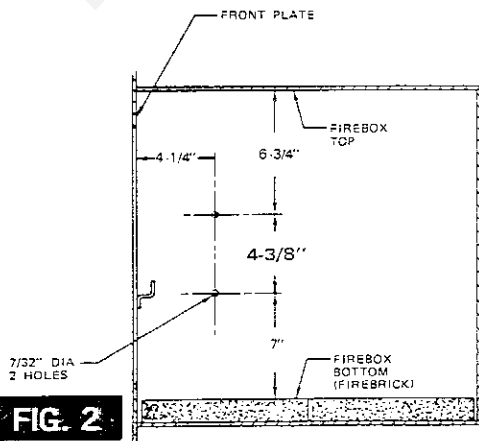
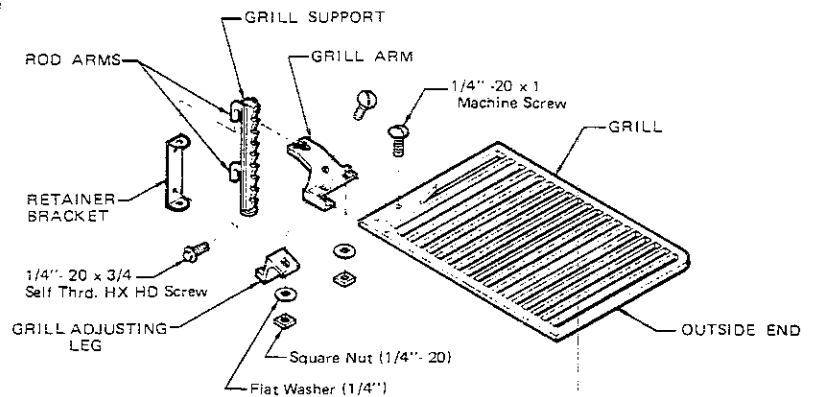

FIG. 2
FIG. 3
1. Mark the hole locations inside the firebox using the dimensions given in Fig. 2. Using an electric drill and the 7/32" dia. drill bit provided, drill (2) holes into the firebox side (left hand side).
2. Position the retainer bracket over the (2) 7/32" dia. holes and mount it to the firebox side, using the (2) 1/4-20 self-threading screws provided with an adjustable or 3/8" wrench.
3. Assemble the grill adjusting leg to the grill arm using (1) 1/4-20 machine screw, 1/4" flat washer and 1/4" square nut that is provided (SEE FIG. 3). Then assemble the grill arm to the grill using (3) 1/4-20 machine screws, 1/4" flat washers and 1/4" square nuts that are provided (SEE FIG. 3).
4. Install the grill support in the retainer bracket which is mounted to inside of firebox by inserting the two (2) round rod arms that are in the grill support into holes in the retainer bracket (SEE FIG. 3).